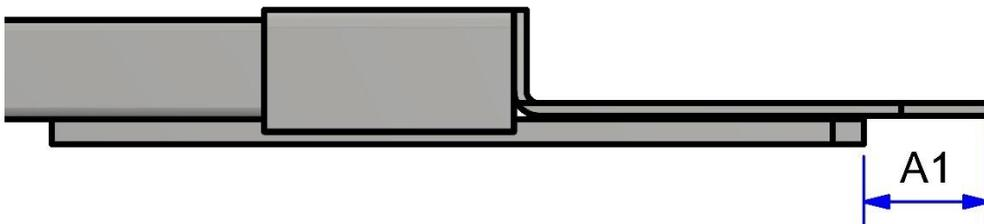

Figure 3 (Check Dimension "A")
4. Ensure dimension A, Figure 3 is achieved to give the exact wheel rest width for the machine to be fitted